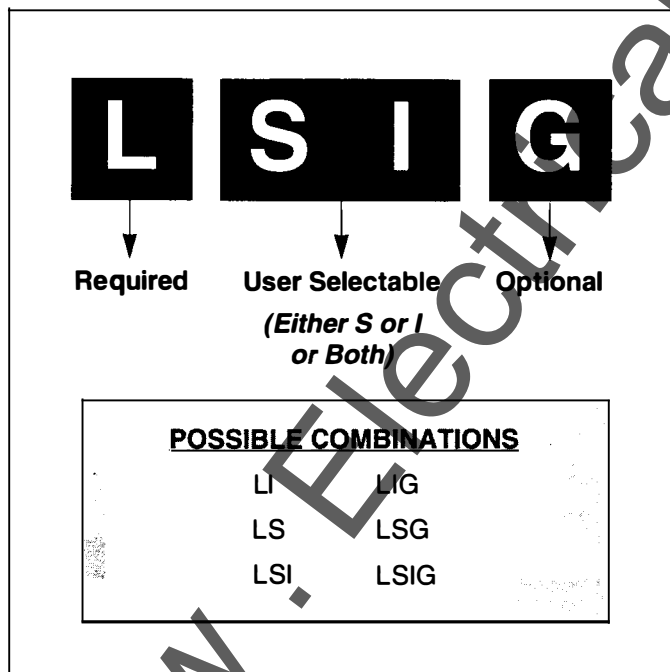

Figure 3-4. Overcurrent Protective Function Combinations
- ① No ground fault alarm (A) provided
② Refer to para. 3-2.3 and Figure 3-4 for details
③ Setting Tolerance $\pm 5\%$
④ Setting Tolerance $+0-30\%$
⑤ Setting Tolerance $+10-40\%$
- ⑥ Setting Tolerance (See time-current curves)
⑦ Setting Tolerance $\pm 10\%$
⑧ Setting Tolerance $\pm 20\%$
⑨ Only available with LSIA
⑩ I_s (L & N-Frame), I_n (R-Frame, SPB, DSII/DSLII)
All Digitrip OPTIM Trip Units are available in six overcurrent protective function combinations of long, short, instantaneous and ground (Figure 3-4). When the protection functions are combined with slope adjustments I^4t , I^2t or Flat, the Digitrip OPTIM Trip Unit provides the following ten programmable curve shaping possibilities:
All Digitrip OPTIM Trip Units provide programmable long delay protection consisting of (Tables 3.2 and 3.3 and Figure 3-4):
Short delay protection is selectable with all Digitrip OPTIM Trip Units. It can be selected in combination with instantaneous protection or without instantaneous protection. Either both, one or the other (short or instantaneous) must always be provided (Tables 3.2 and 3.3 and Figure 3-4). Short delay protection can consist of the following:
Instantaneous protection is selectable with all Digitrip OPTIM Trip Units. It can be selected in combination with short delay protection or without short delay protection. One or the other (instantaneous or short) must always be selected (Tables 3.2 and 3.3 and Figure 3-4). Instantaneous protection is provided via: